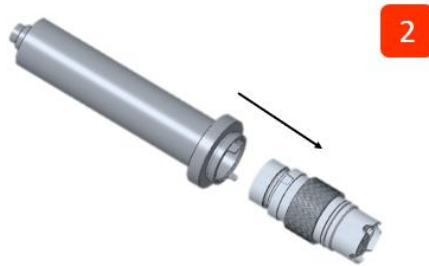

Figure 31
2. Thoroughly wipe the electrode head with a dust-free cloth or paper-towel then pull out the electrode head as shown in Figure 31.